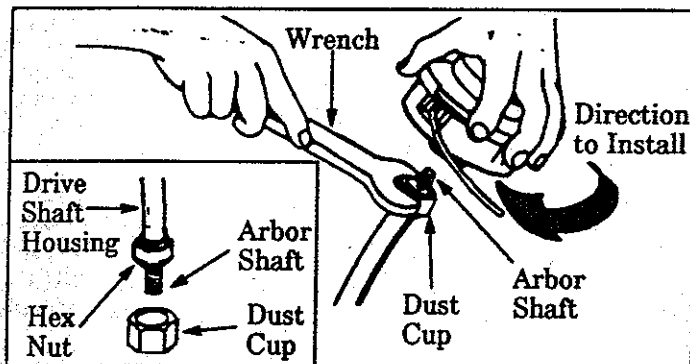

Figure 4
- Place the Dust Cup on the Drive Shaft Housing over the hex nut that is assembled on the arbor Shaft. Figure 4.
- Thread the Trimmer Head onto the Arbor Shaft against the Dust Cup and hand tighten firmly. Figure 4.